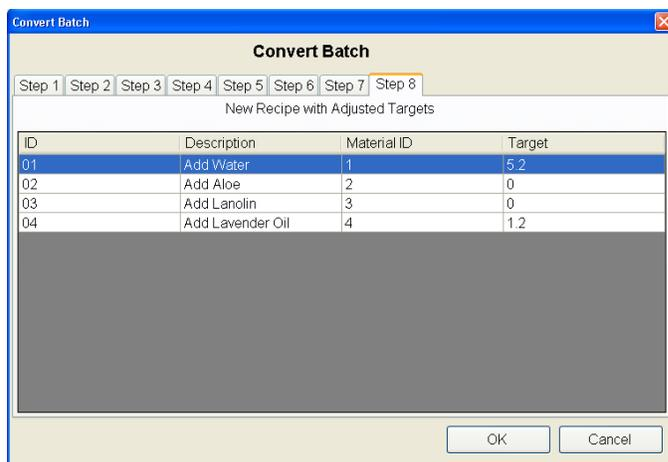

Figure 12-7: Converted Batch, Showing New Target Values
- When **OK** is selected, the Convert batch function re-calculates the target weight for the recipe based on the entered data, and displays the new target values, as shown in Figure 12-7. It is important to review this screen to ensure that the new target weights are correct, before proceeding.
8. As Figure 12-7 shows, Convert has calculated that 5.2 kg of Water and 1.2 kg of Lavender Oil must be added to the batch to fulfill the requirements determined by the laboratory analysis.
9. Note that when you select **OK** in the screen shown in Figure 12-7, the system will automatically create a copy of the recipe with all of the conversion changes applied. This recipe can easily be identified in BatchTool, because the system assigns an extra **0** (zero) at the beginning of the recipe name Figure 12-8 shows an example.